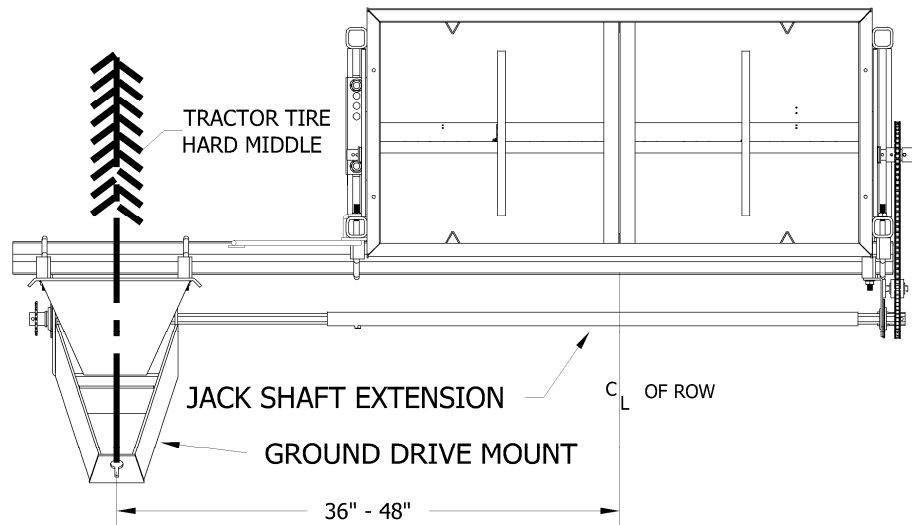

Figure 2
- B. IS THE BOX GOING TO BE IN THE BEST LOCATION CLEARING ALL OTHER PARTS AND EQUIPMENT? MARK THE LOCATION FOR THE BOX(S) PER DESIRED ROW SPACING.
2. INSTALLING THE GROUND DRIVE BOX MOUNT. (Figure 2)
- A. IF MOUNTING A 2 ROW APPLICATOR AND YOU WANT THE WHEEL IN A HARD MIDDLE. FIGURE 2, SHOWS THE GROUND DRIVE WHEEL MOUNTED FOR 96" WHEEL CENTERS. THE JACK SHAFT EXTENSION IS MADE TO WORK FOR 72" TO 96" WHEEL CENTERS. ANYTHING NARROWER WILL WORK, BUT JACK SHAFT EXTENSION WILL HAVE TO BE SHORTENED.